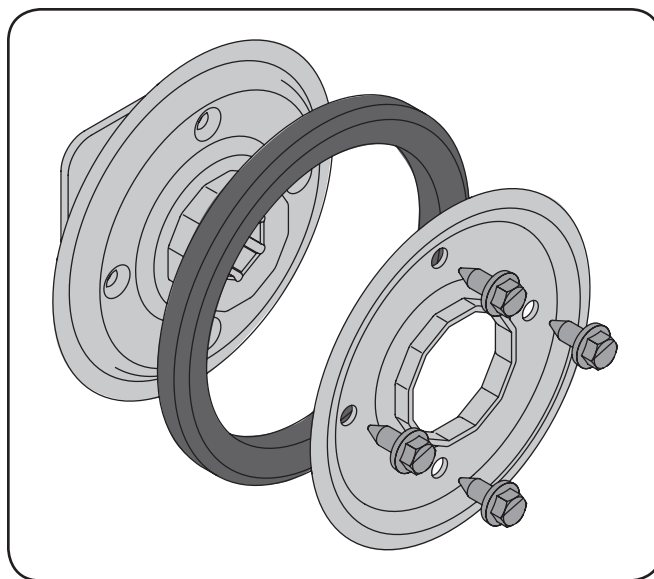

Figure 7-10
- Remove the four screws which secure the friction wheel's side plates together. See Figure 7-10.